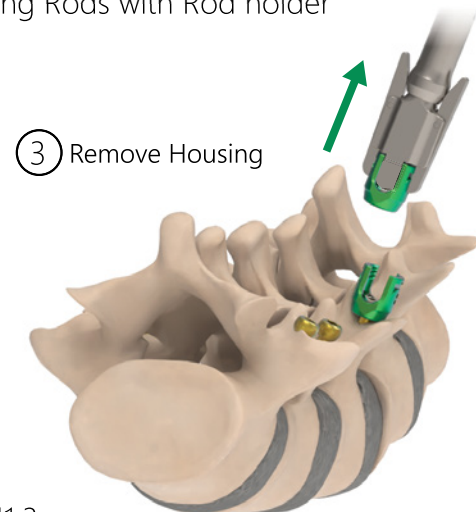

Figure 11.3
3. Attach the appropriate Tulip Removal instrument to the appropriate Housing by placing the instrument's distal tip over the Housing (Figure 11.3).